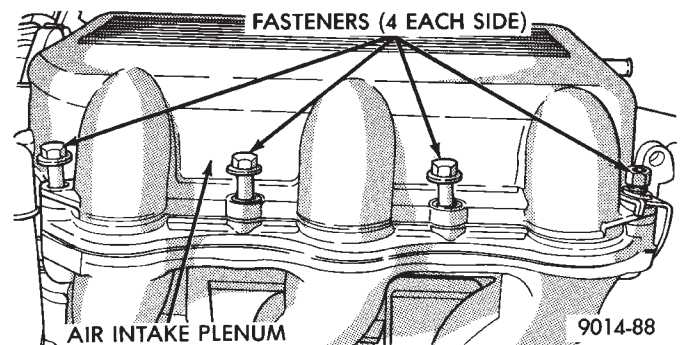
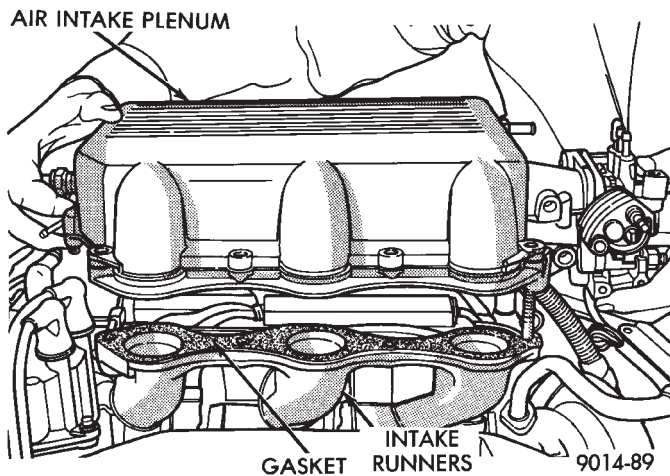

Fig. 10 Air Intake Plenum to Intake Manifold Attaching Fasteners
Fig. 11 Removing Air Intake Plenum
(12) Remove air intake plenum to intake manifold mounting fasteners (Fig. 10).
(13) Remove ignition coil.
(14) Remove air intake plenum (Fig. 11).